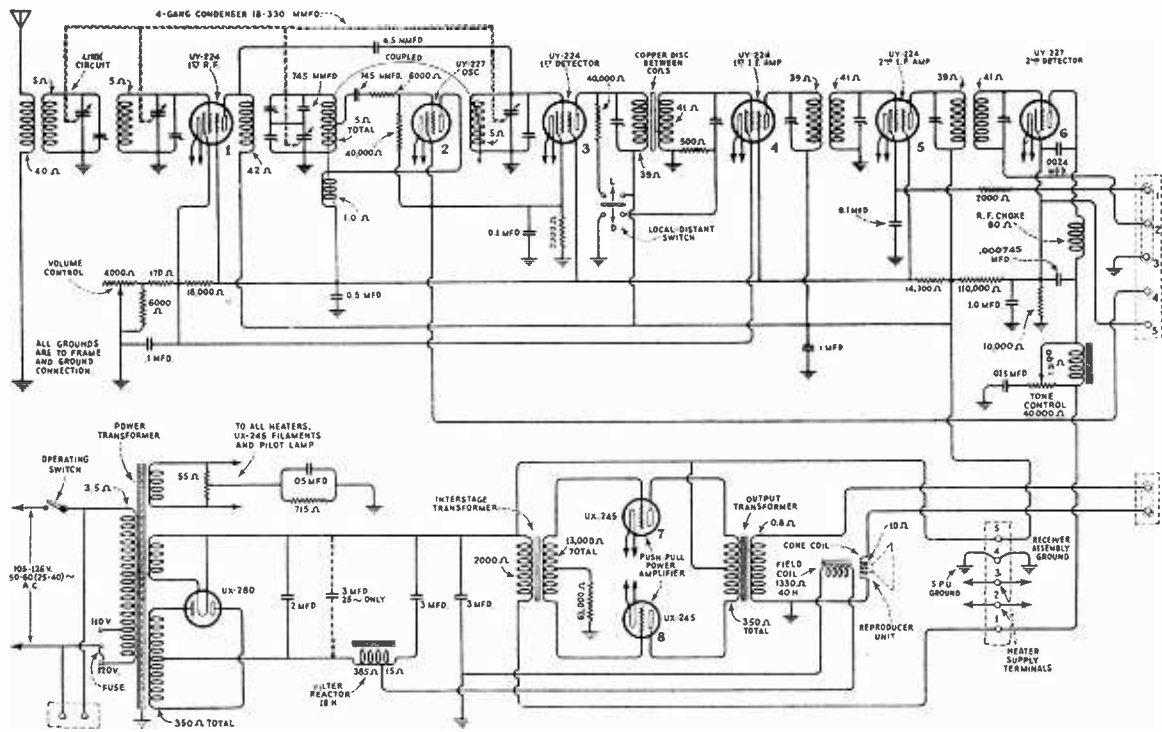

FIG. 1
of the diagram, Fig. 1, to which the grid return of the detector is connected, at point (2). If one terminal of the pick-up unit is connected to (2) and the other to (5) the detector tube will act as an amplifier, without grid bias, for the phonograph signals.